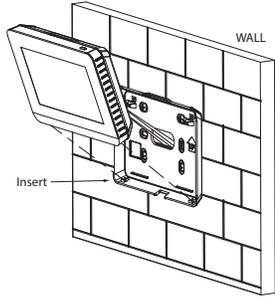

Fig. 7 — Attach controller to back cover
- Angle the controller to insert it into the bottom snap joints of the back cover as shown in Figure 7.